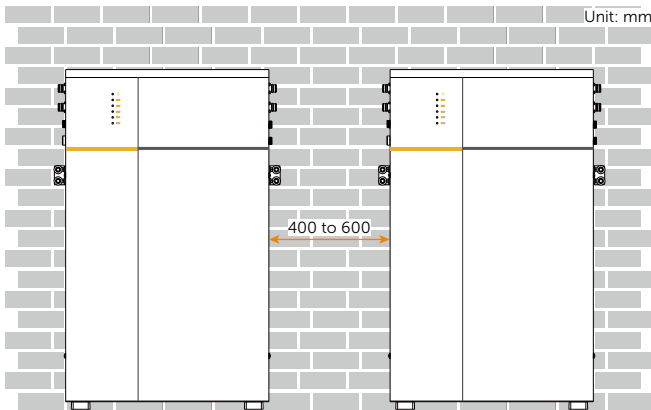

Figure 6-1 Installation option
- The Figure 6-1 takes two battery packs as an example.